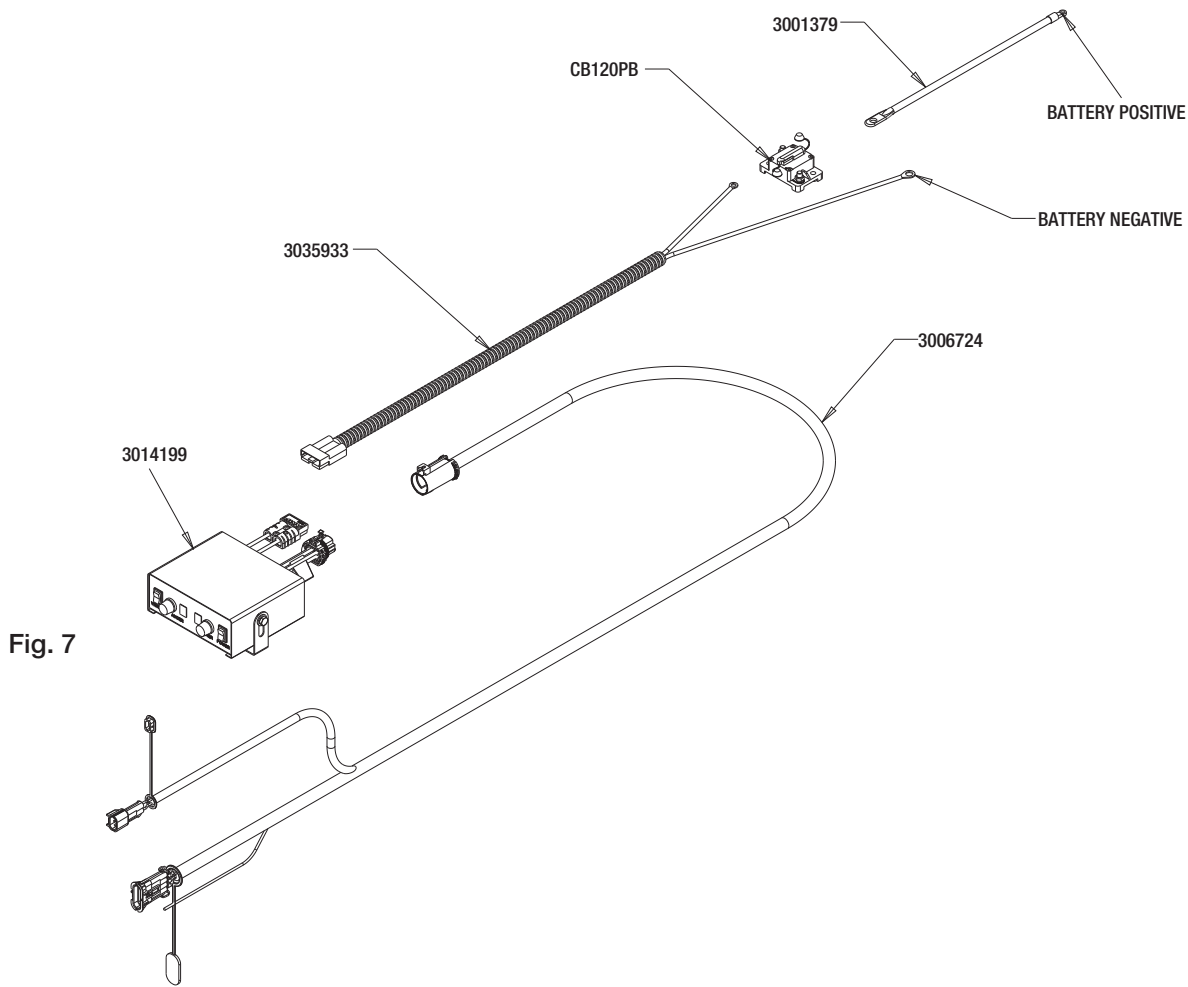

Fig. 7
2. Install Control Box & Vehicle Wiring Harness (Fig. 7).
F. Connect the power cable ring terminals to the truck battery (fig. 7).
G. Attach utility light (optional) to spreader hopper in desired location. Connect as shown in Fig. 7. Use utility light kit part number 3018009.